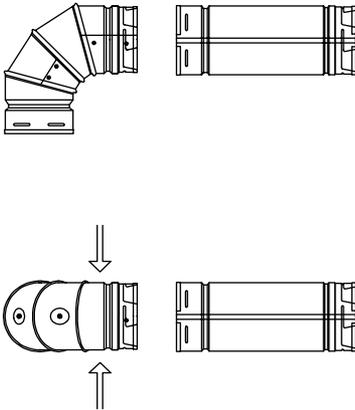

Figure 20
**3. 90° Elbows. Figure 20.** The installer should apply pressure to the section at the points indicated by the arrows. This will prevent the adjacent sections of the elbow from turning, as the next pipe or fitting is twist-locked on. This is important, because once these sections start rotating, the elbow does no longer have a 90° angle.